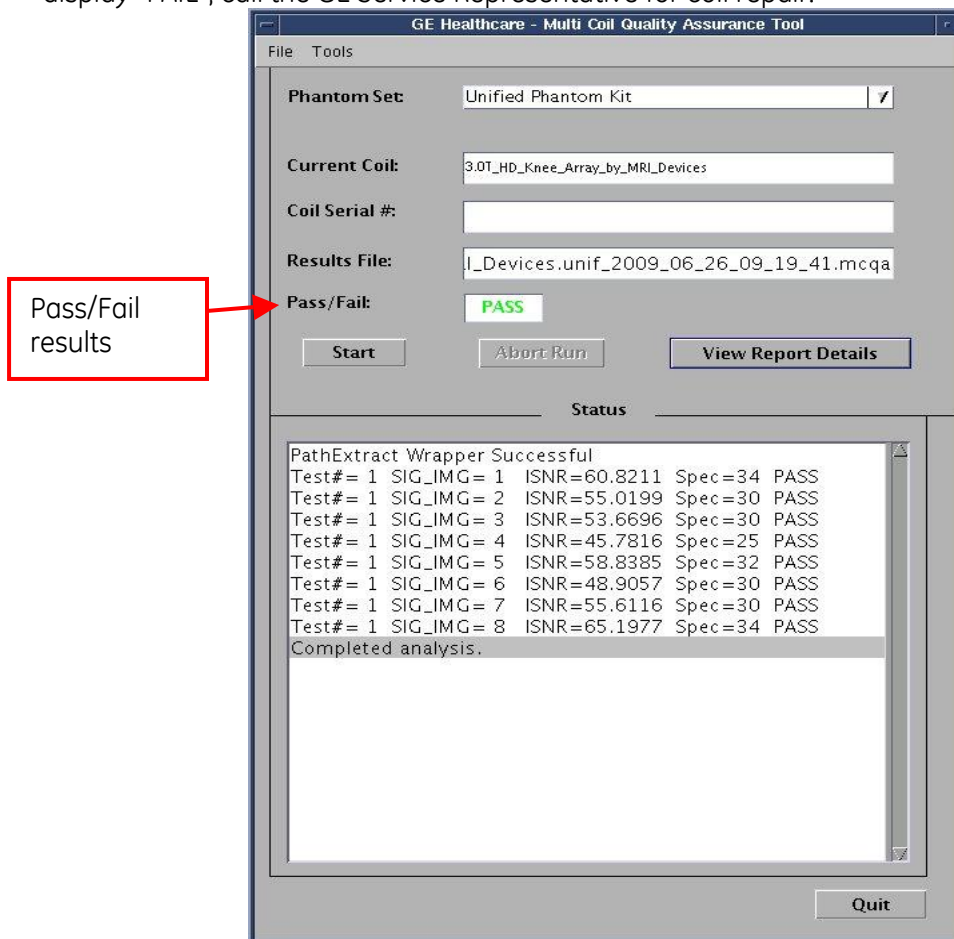

Figure 40
9. When the test is complete, test results display on the screen (Figure 40). The PASS/FAIL status shows PASS if all coil elements are functioning properly. If any coil elements display "FAIL", call the GE Service Representative for coil repair.